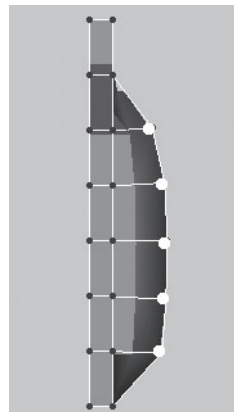

FIGURE 3.68 Points of the lattice adjusted to match the image plane.
46. Press the W key and drag the selected lattice influence points to the left approximately two units on the Z axis. Drag the individual lattice points to the edge of the sack (see Figure 3.68).